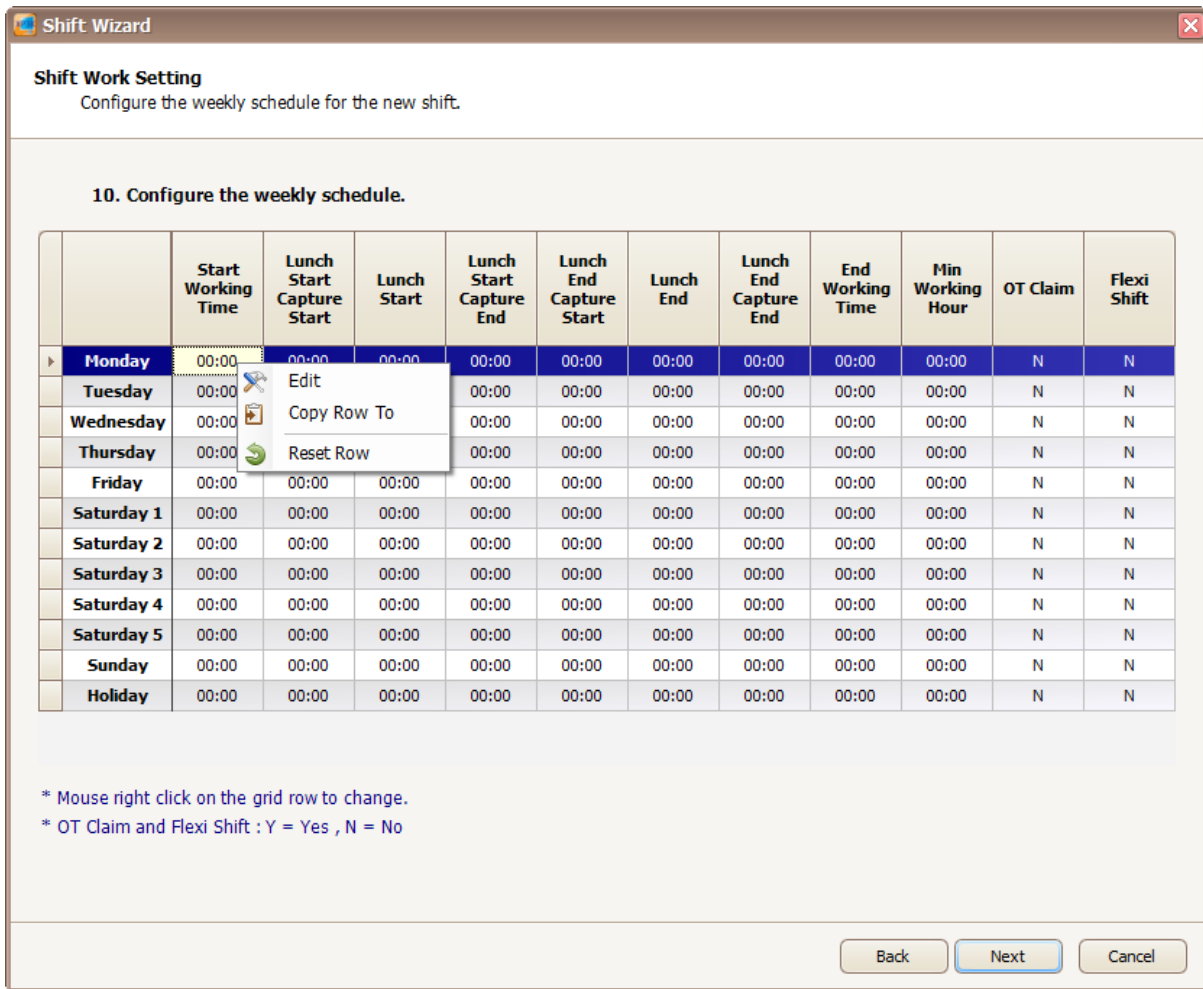

Figure 58 - Configure weekly schedule
9. After you click Next, you will be directed to this screen (Refer **Figure 58**). You can configure the weekly schedule for the new shift you have created. Right click on the grid row to change the time.